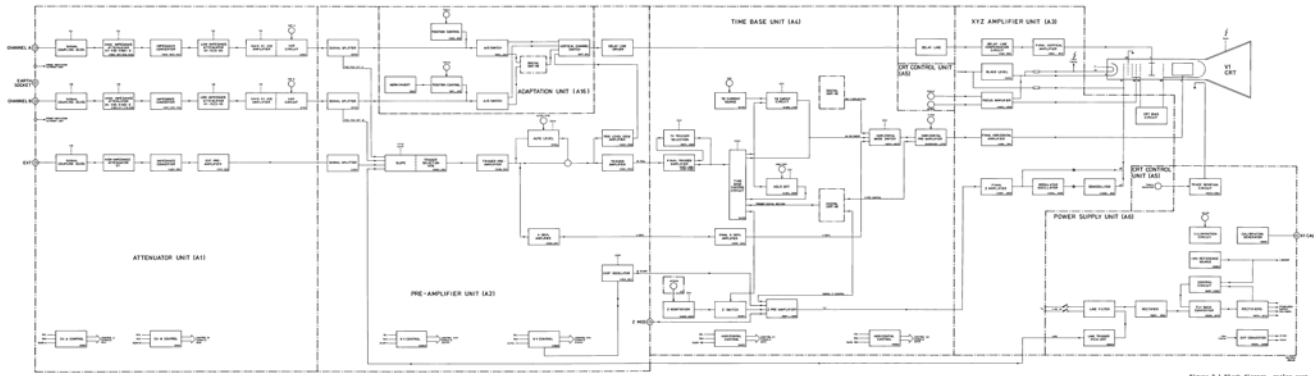

Figure 3-1 Block Diagram, ending part
3.2 BLOCK DIAGRAM DESCRIPTION (see figure 3.1 and 3.2)